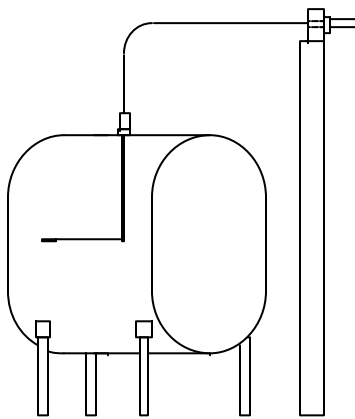

Fig. 1
3. Find location for hole for copper tubing and beaded chain. (Preferably in the sill between joists) drill or cut 5/8" diameter hole or 1" hole if gauge is to be side mounted. (Fig. 1)